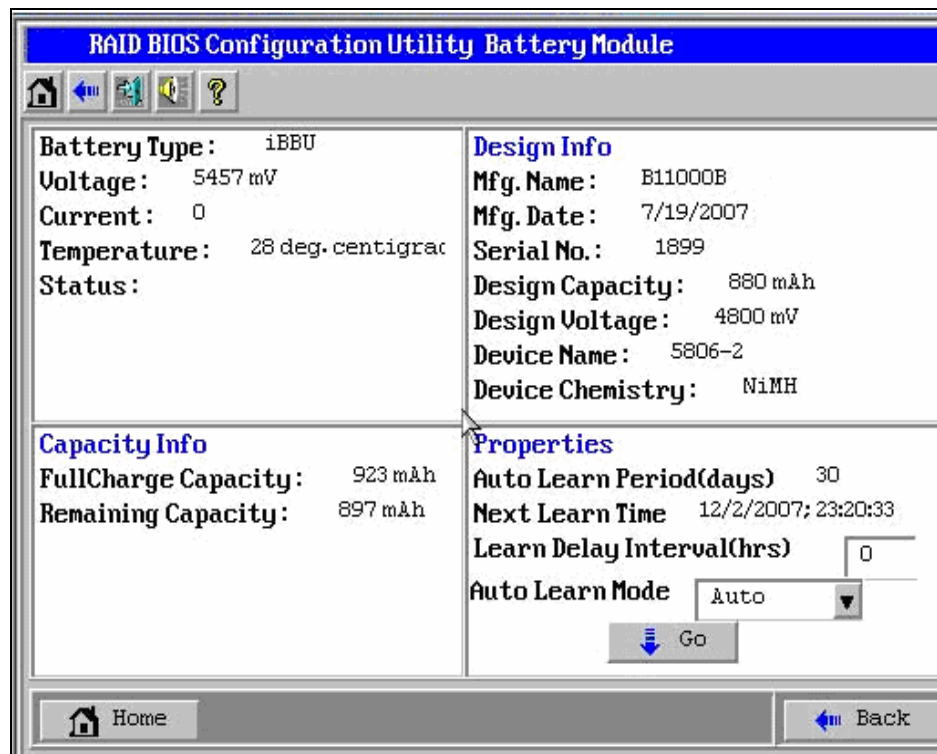

Figure 5. Battery monitoring with the RAID BIOS Utility
- Figure 5. Battery monitoring with the RAID BIOS Utility 7